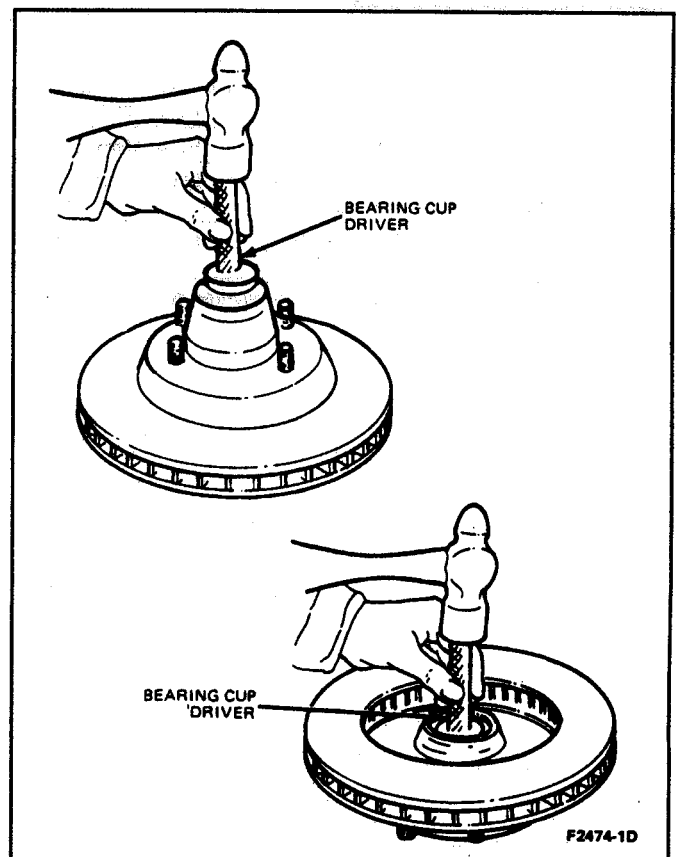

FIG. 2 Installing Bearing Cups
10. If inner or outer bearing cups were removed, install replacement inner and outer bearing cups in the hub with the appropriate bearing cup replacer tool (refer to the Special Service Tool chart in the Specifications portion of this section) and Driver Handle T80T-4000-W (Fig. 2). Be sure to seat the cups properly in the hub. The cups will be properly seated when they are fully bottomed. Replace grease retainers.